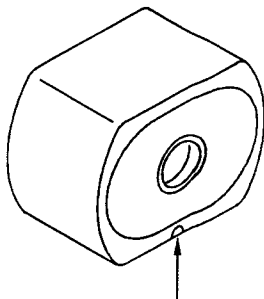

Figure 7. Lens-Mount Set Screw
1. To adjust the lens mounting collar, loosen the set screw as shown in Figure 7 with a 1/16 inch Allen wrench.